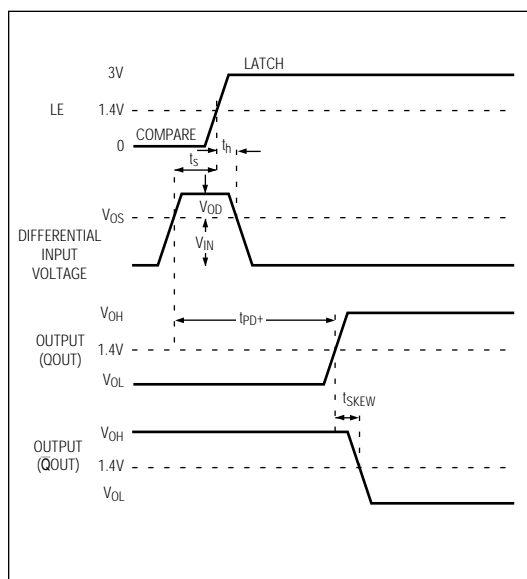

Figure 2. MAX909 Timing Diagram
- Note 12:** Latch specifications apply to MAX909 only. See Figure 2.
The MAX909 includes an internal latch, allowing the result of a comparison to be stored. If LE is low, the latch is transparent (i.e., the comparator operates as though the latch is not present). The state of the comparator output is stored when LE is high. See Figure 2.